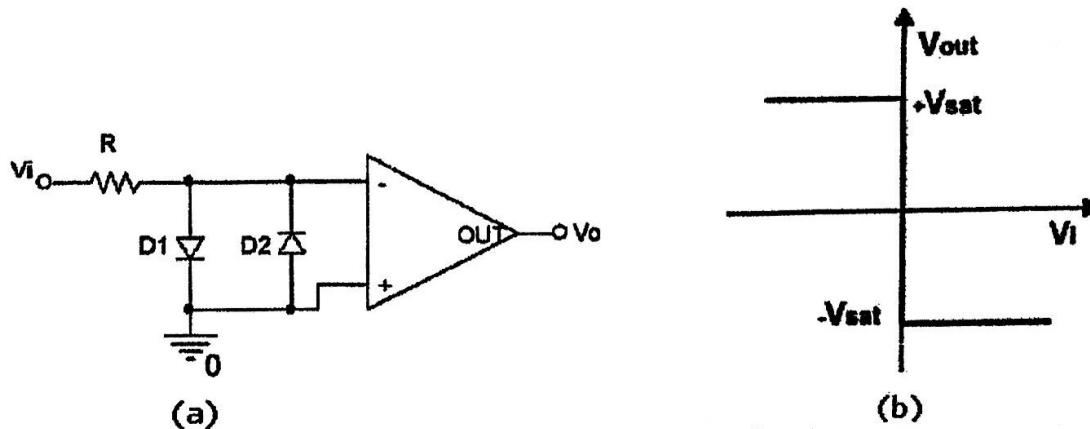

Figure 17.39: Inverting zero-crossing detector
- In **inverting zero-crossing detector**, input-voltage slightly more positive than zero produces a negatively saturated output-voltage (Figure 17.39).